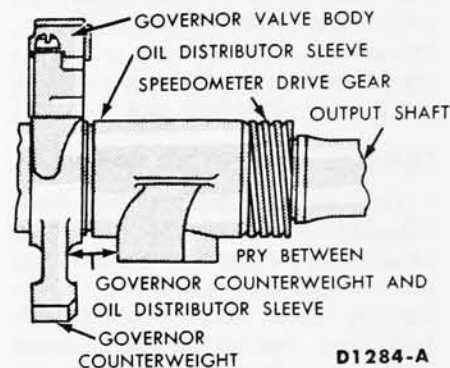

FIG. 15—Pressure Apply Point for Drive Gear Removal
4. Pry the oil delivery sleeve toward the rear of shaft with a hammer handle. Make certain to apply pressure on the governor counterweight, and not against the governor valve body (Fig. 15).